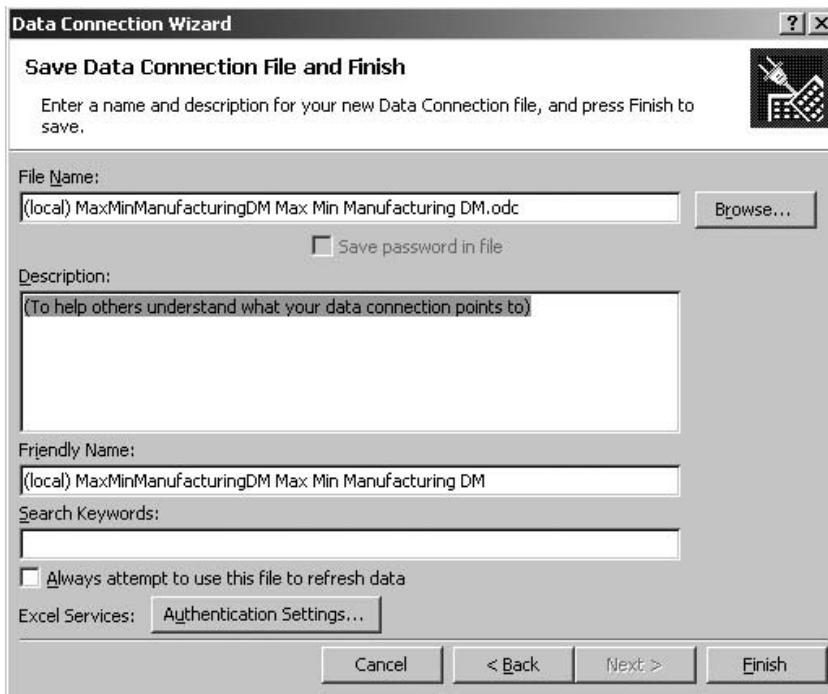

Figure 19-6 The Save Data Connection File and Finish page of the Data Connection Wizard
14. Click Next. The Save Data Connection File and Finish page of the Data Connection Wizard appears as shown in Figure 19-6.